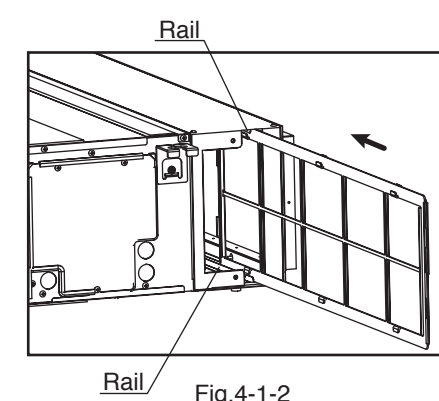

Fig.4-1-2
- (2) Insert the filter that was removed in step 3-1 above along the top and bottom rails. (Fig. 4-1-2)